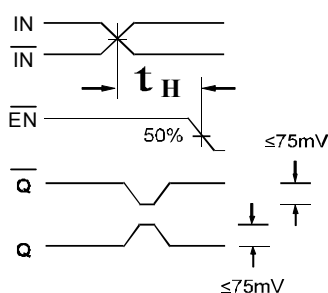

Figure 2. Hold Time
6. The hold time is the minimum time that EN must remain asserted after a negative going IN or a positive going \bar{IN} to prevent an output response greater than $\pm 75mV$ to that IN/ \bar{IN} transition (see Figure 2).